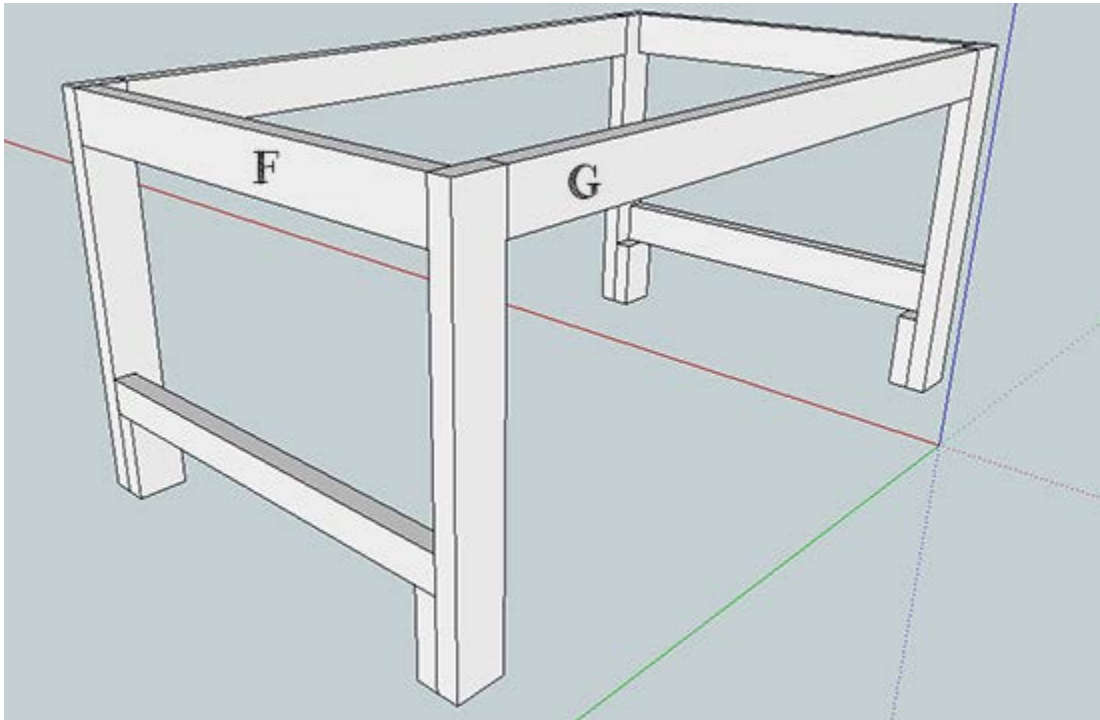

Figure 4: Top Long Supports
6. Attach the 'G' boards to the 'A' boards using pocket screws. Make sure the top of the 'A' boards are flush with the 'G' boards (Figure 4).